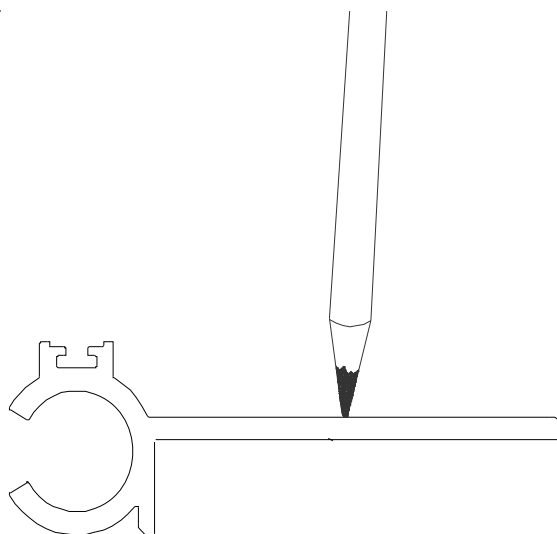

Figure 2
STEP 2. Select the base members. If the anchor holes have not been predrilled in the base members at the factory, mark the locations for the anchor holes on the base members (see Figure 2). Standard anchor spacing is 20" O.C. with an anchor at a nominal 3" from each end of the base member. Drill the holes into the base members at the marked locations.